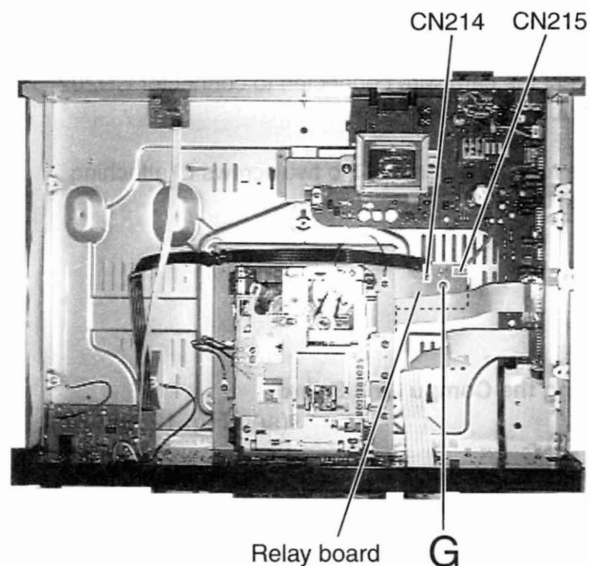

Fig. 9
■ Removing the Relay Board (see Fig. 9)